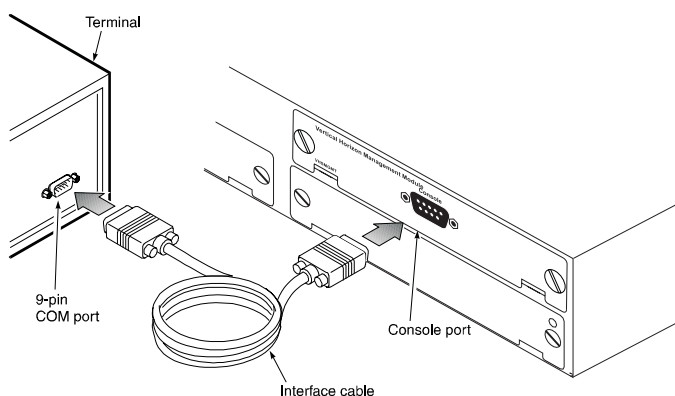

Figure 2-4. Connecting a Terminal to the Console Port
1. Connect a VT100 compatible terminal or a PC running a terminal emulation program to the console port (Figure 2-4). Use the null-modem cable provided with the Management Module, or use a null-modem connection that is compatible with the console port pin assignments shown in Appendix A.